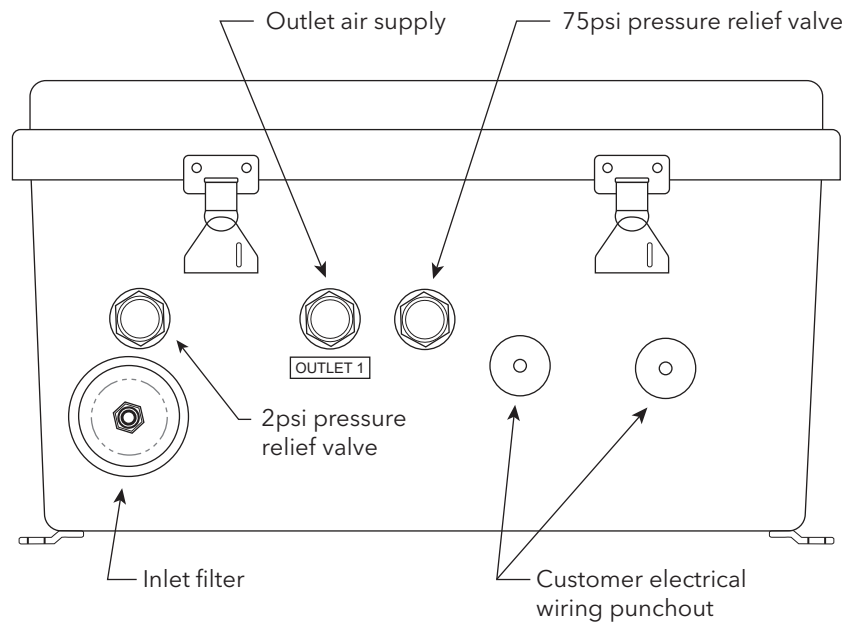

Figure 3 Conduit Configuration for the Single Channel Compressor
-  WARNING. Run high and low voltage cables through separate conduit. There will be conduit holes in the base of the compressor. Feed power and relay wires through separate conduit holes, see **Figures 3, 4 and 5**.
Connect air-cleaning hose supplied with IQ SensorNet Cleaning head kit to the quick connect fittings on the compressor. Figures 3, 4 and 5.